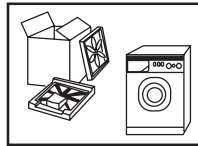
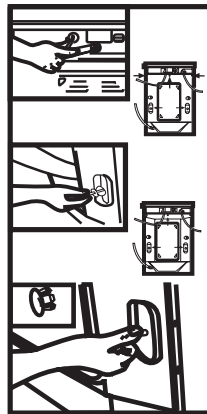

Fig.1
Fig.2
- As shown in figure 1 remove all the packing materials(including the foam base).
- Remove the packing screws as shown in figure 2.
<p>3. Clean the detergent compartment regularly. For the detergent compartment similar to figure (a), raise the compartment slightly to remove and replace after cleaning.</p>  <p>Fig.(a)</p>	<p>4. Cleaning the Filter (once a month). Press the lower edge of the filter compartment Cover to open; (Fig.1-2); Remove the filter by Turning counterclockwise; (Fig.3); Flash clean with running water; Filter replacement is the reverse of removal. Caution: Attention shall be paid to ensure that the filter is replaced correctly to avoid possible leakage.</p>    <p>Fig. 1 Fig. 2 Fig. 3</p>